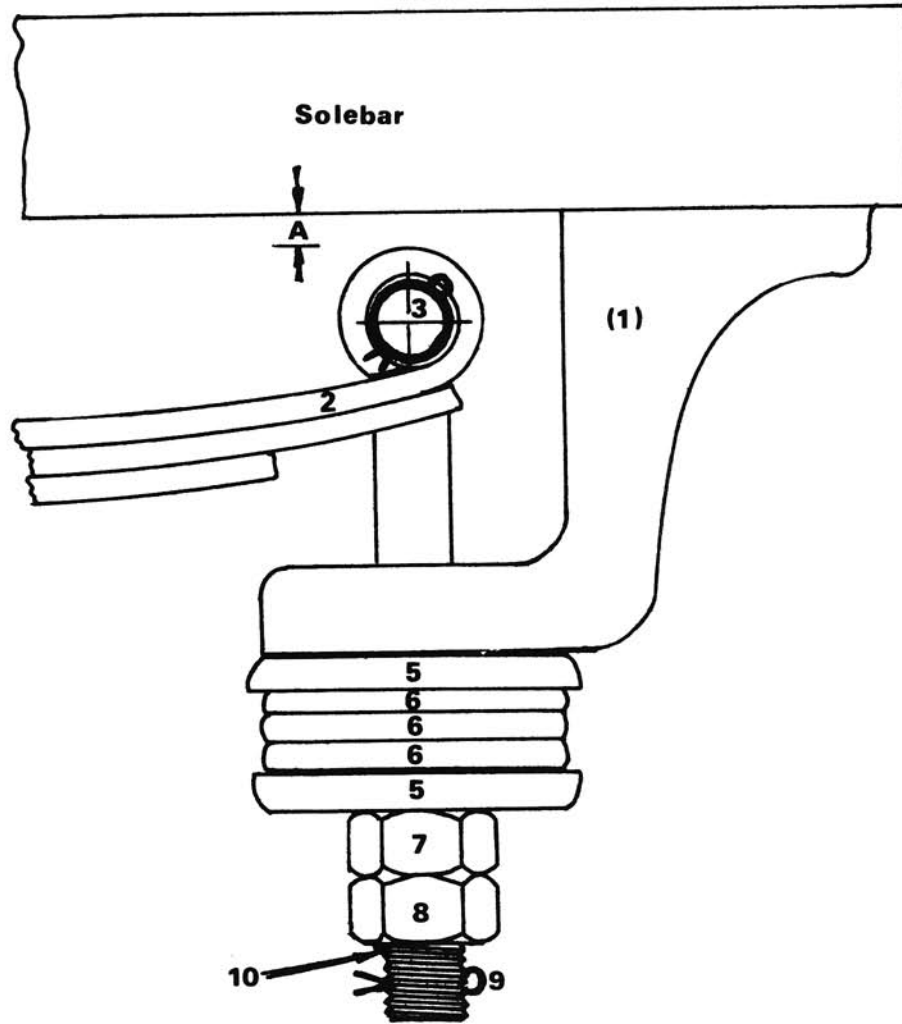

Fig 37 Auxiliary Suspension
This is also of the laminated type, but is assisted by the addition of India Rubber (I.R.) packing (see Fig. 37).
A scroll iron is attached to the solebar. It is this component which carries the I.R. packing and eye bolt (see Fig. 37).
1. Check all eye bolts are an equal distance from underside of solebar ("A" Fig.37).
7. Adjusting nut (7) (Fig.37) is held in correct position by locknut (8) (Fig. 37).